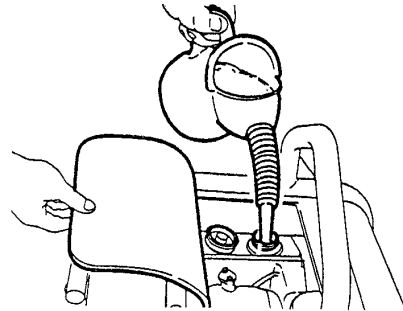

Figure 23. Refueling
- Visually inspect to see if fuel level is low. If fuel is low, replenish with diesel fuel (Figure 23).